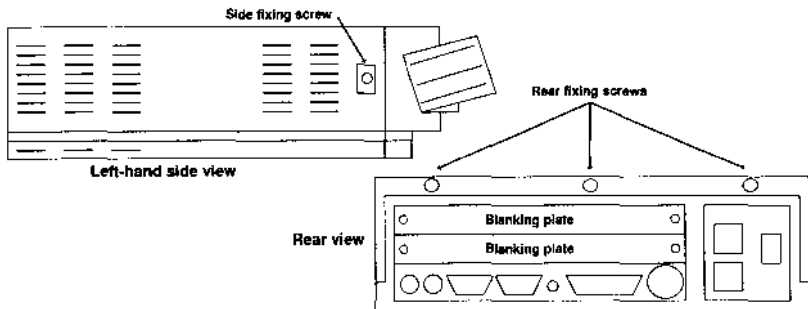

Figure 1. Archimedes top cover removal
2. Referring to figure 1, locate and remove the five screws securing the case lid.
16. Having selected the slot to be used, it is necessary to remove the corresponding blanking plate shown in figure 1. If the interface card is being fitted next to another card then only the half-width blanking plate need be removed, leaving the 'T shaped joining piece.